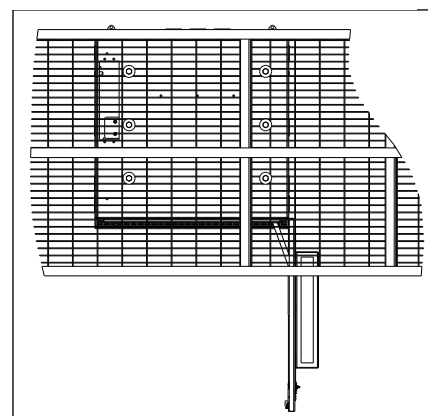

Figure 6 **Installing on a Platform**
8. To secure the CUBE to a steel grate platform, install 1/2" corrosion-resistant Grade 5 steel hardware through the cabinet and platform grate. Ensure that the bolts are long enough to extend past the nut on the bottom side of the platform grate. For all mounting applications, each bolted joint should have a minimum Ø1 inch fender washer on the inside of the cabinet (and underside of the platform grate for platform mounting) with a lock washer. The washer on the underside of the platform must be large enough to cover both adjacent bearing bars as shown in Figure 6.